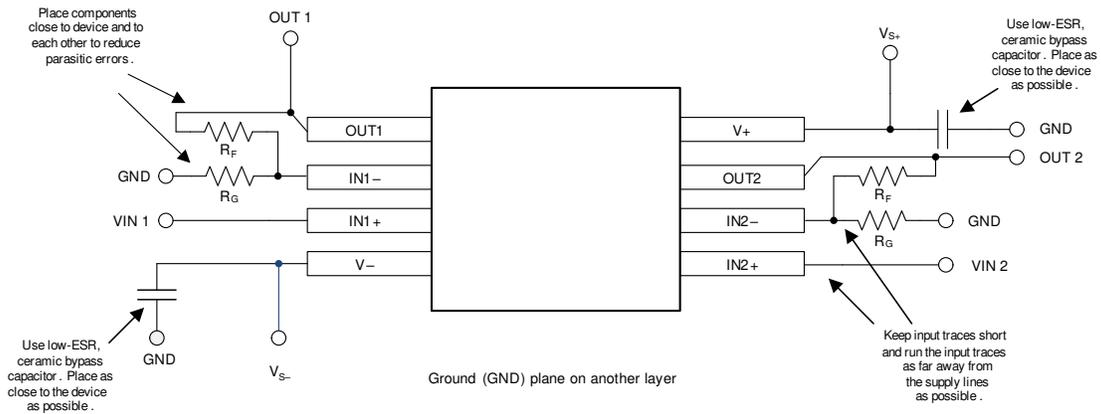

Figure 35. Layout Example
- Place the external components as close to the device as possible, as shown in Figure 35. Keeping  $R_F$  and  $R_G$  close to the inverting input minimizes parasitic capacitance.